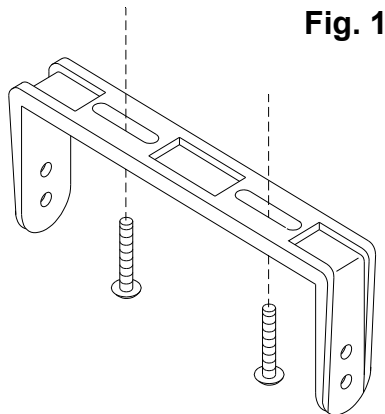

Fig. 1
2. Using the bail strap as a guide, drill two 1/8" holes and secure the bail strap to the dashboard with two #10 x 1" Phillips pan head sheet metal screws (user supplied). Refer to Figure 1.